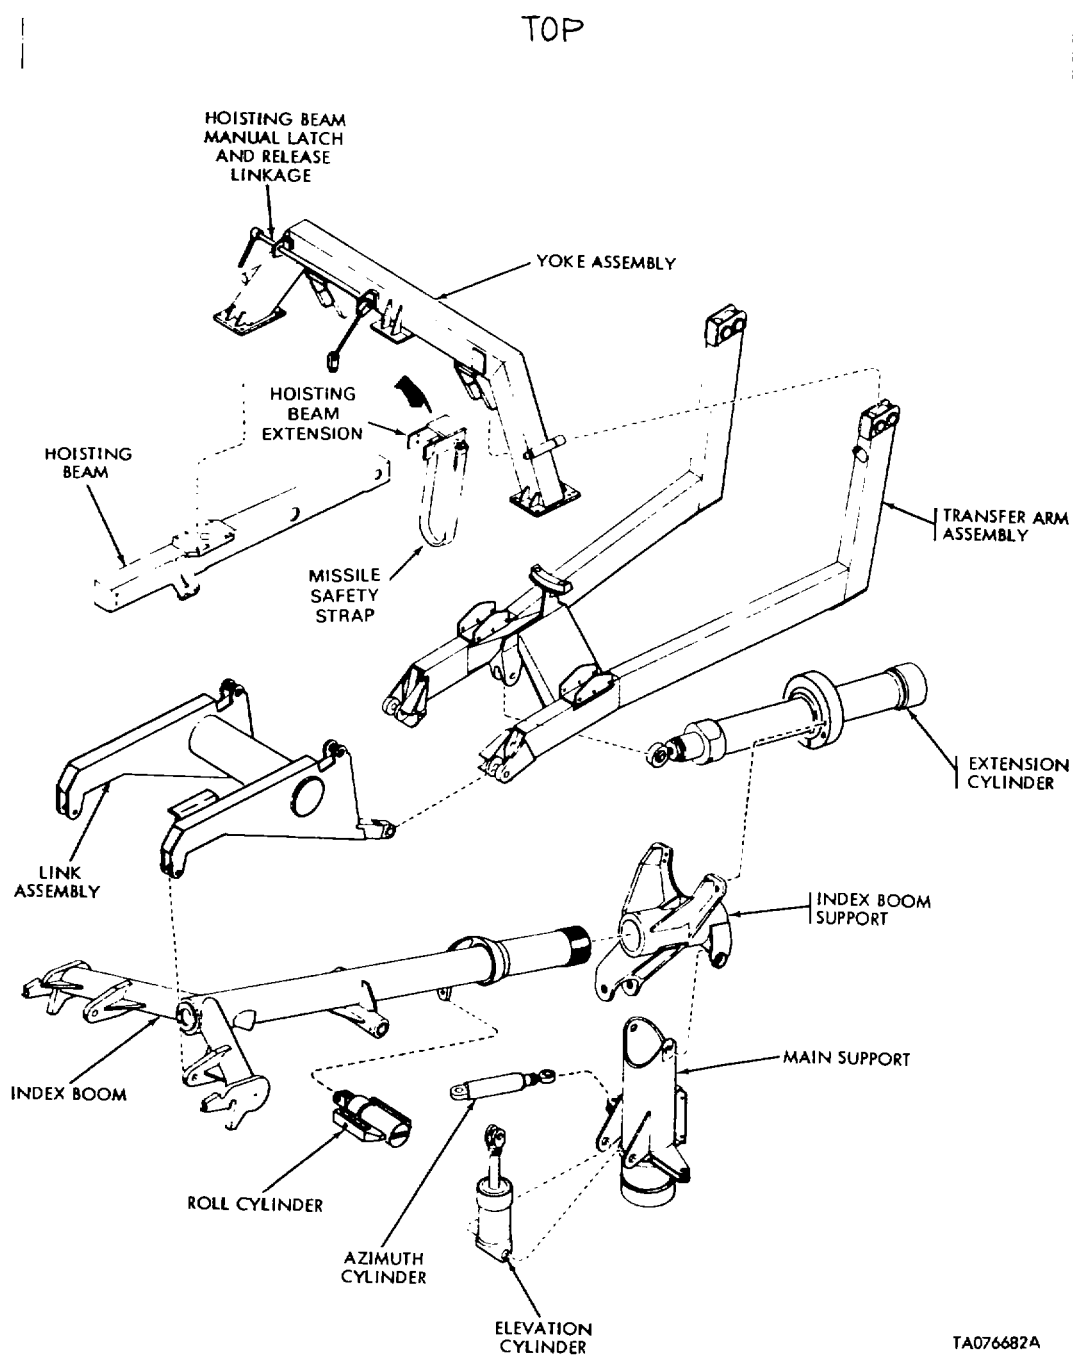

Figure 2-1. Superstructure Components
- a. Disassembly and Reassembly of Superstructure. Refer to paragraphs 2-14 through 2-21 and figure 2-1.